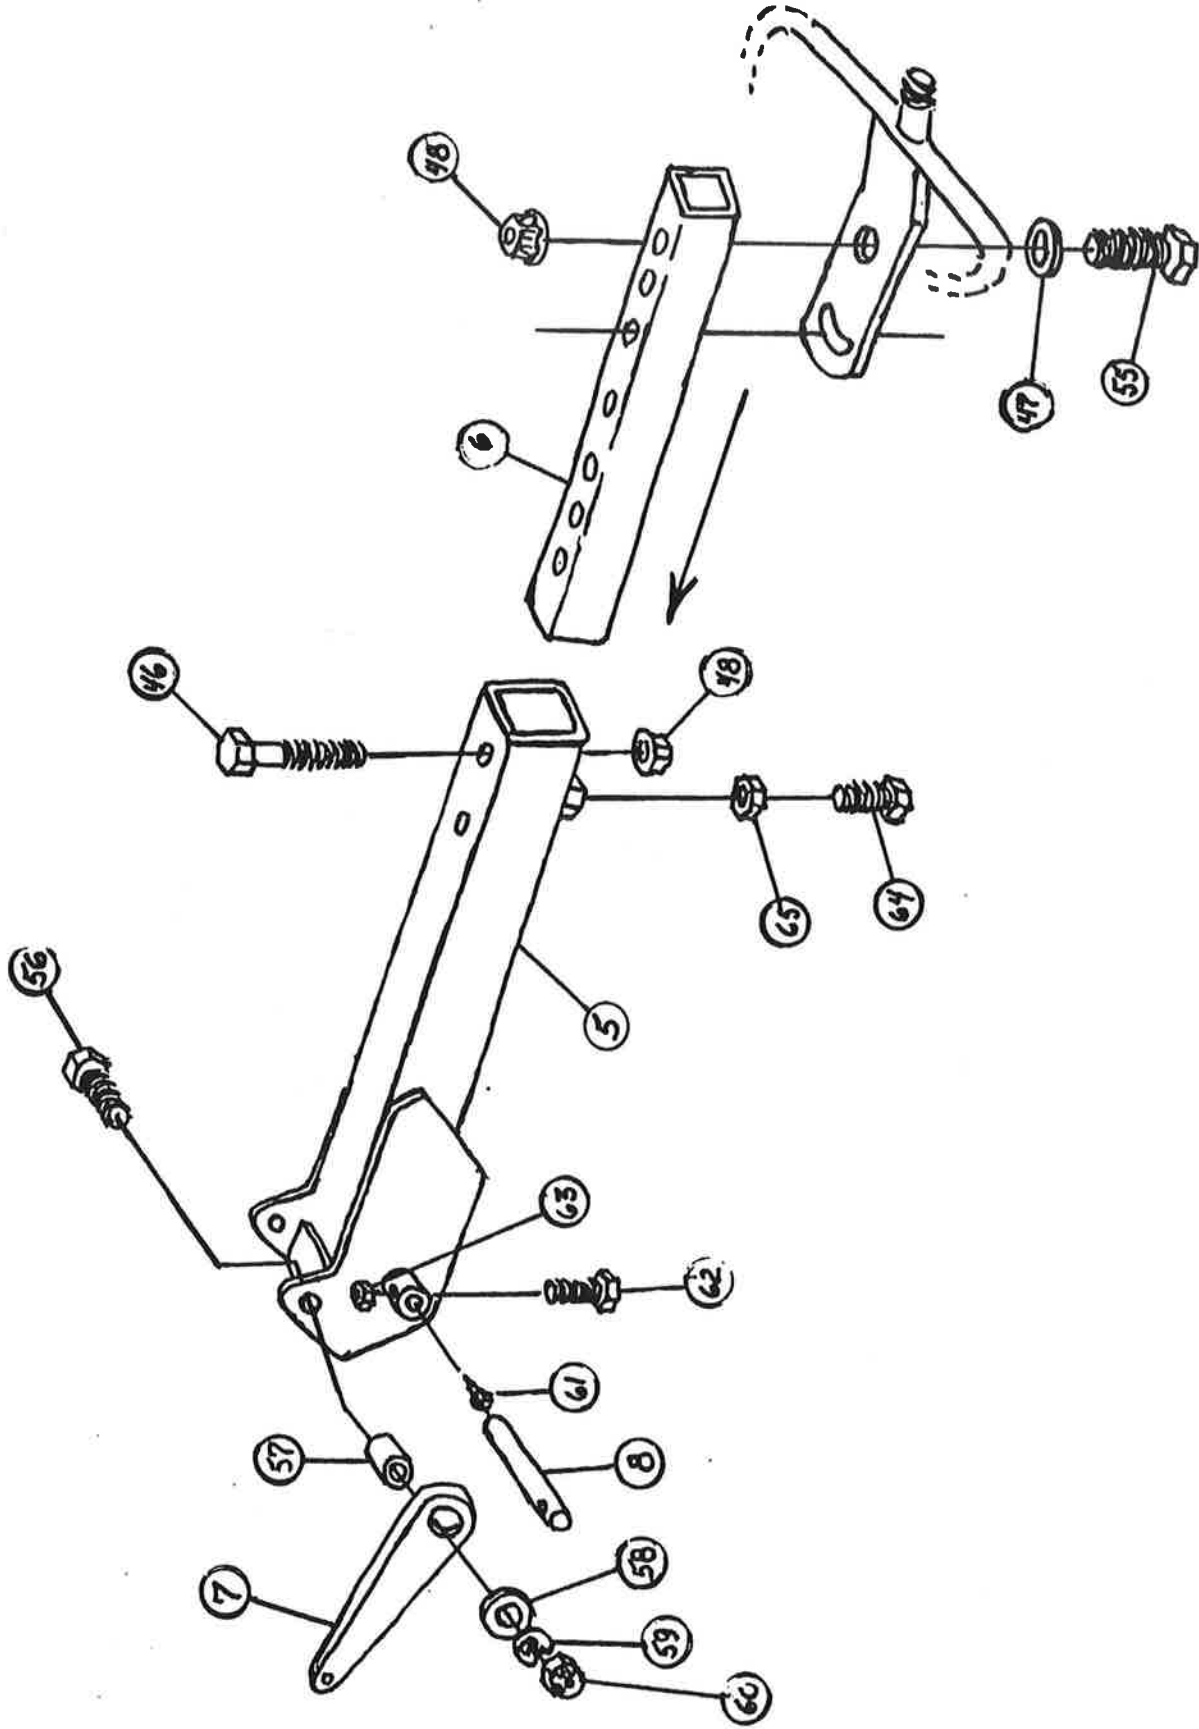

FIGURE 2
Step 3 Assemble one Outer Arm Assembly by installing extension tube (6) inside the end of each outer arm weldment (5). Leaving 5 holes exposed in the extension tube (beyond the outer arm) for 15 ft drill with 7.5" row spacing, secure the extension by installing (2) 1/2 x 3.5 long Grade 5 HHCS (46) and 1/2" Grade 8 flange locknuts (48); torque to 70 ft lbs. Install 3/4" x 2" long HHCS (64) and 3/4" jam nut (65) into weld nut near end of outer arm weldment. Tighten 3/4" HHCS against extension tube to remove all play (approx 50 ft lbs) secure jam nut to prevent loosening. See figure 2.
Step 10 Attach Outer Arm Assembly (with extension) to end of Inner Arm (1) by inserting pin (8) (approx 5.75" long) as shown in figure 2, through boss in outer arm and through boss below outer end of inner arm (1). Insert pin with grease zerk to rear. Tap shaft in place with soft hammer to avoid damage to shaft. Align retaining holes in outer arm boss and pin, install retaining bolt (62) through outer arm boss and pin. Retain with nut (63) as shown, torque (62) to approx 25 ft lbs. Check there is full engagement in mount and zerk is to the rear.
Attach cable attachment arm (7) (see figure 2) to front surface of the outer arm (5) using screw (56), bushing (57), 1.75" od washer (58), lockwasher (59) & nut (60). Torque nut (60) to 140-150 ft-lbs.
Step 11 Attach Cable Assembly With marker inner and outer arms attached to mount and drill frame and supported in approximately horizontal position (support under outer arm (5)), attach spring (27) and cable assembly (28) between mount and outer arm by attaching one end of spring (27) machined link (70) bolted to mount.
Step 17 Mounting Hub End Assemblies, Rechecking Width - With marker arms in extended position and after obtaining correct hydraulic operation and speed, turn tractor engine off. Attach Marker hub end assemblies (assembled in step 4 above) to outer 2 holes on extension tube (6) using bolts (55), Washers (47) and Locknuts (48). See figure 2. Hub End Assembly should be on bottom of extension tube (6). Adjust angle from straight to 15 degrees rearward to change aggressiveness of marker to suit conditions. Tighten nuts (48) to approx 90 ft-lbs.